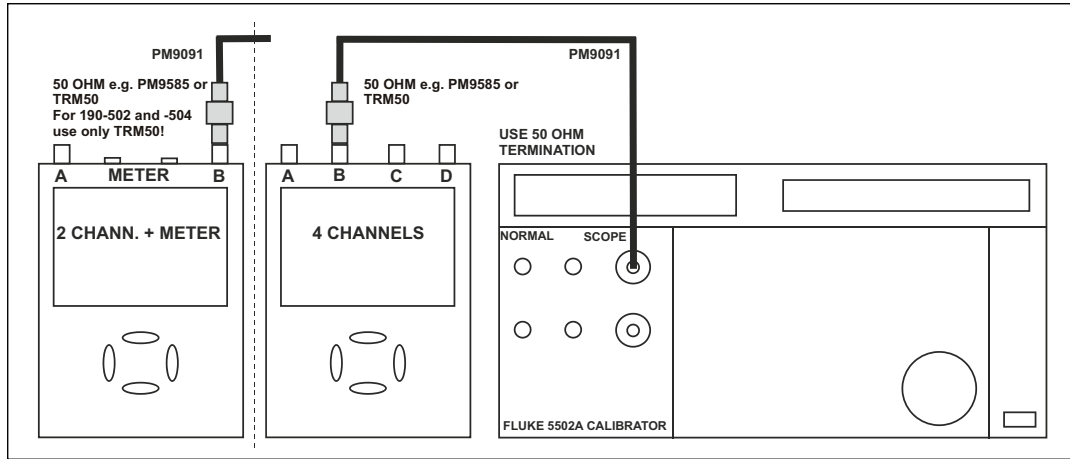

Figure 4-8. 5502A Scope Output to Test Tool Input B
1. Connect the Test Tool to the 5502A as shown in Figure 4-8.